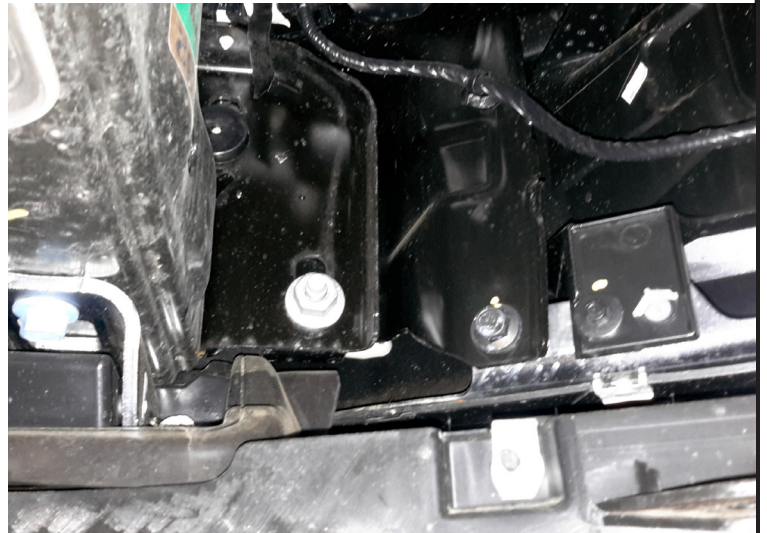

Figure 7
9. From underneath the vehicle, remove the last remaining nut holding bumper in place (each side). See Figure 7.